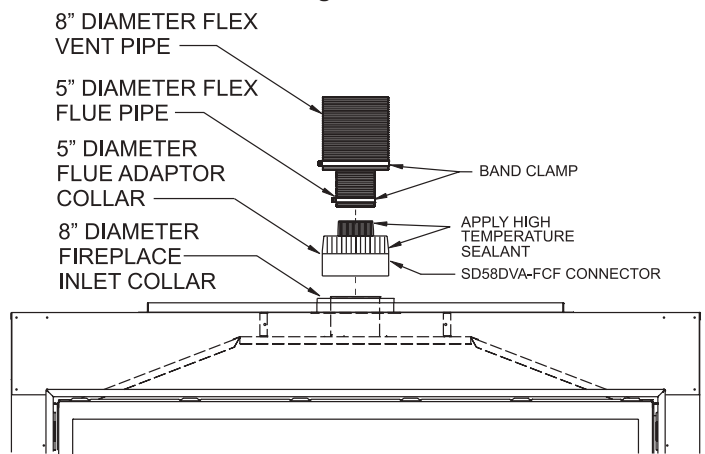

Figure 62b
**NOTE:** For installation of Flex Venting on Fireplaces that have Flue and Inlet Vent collars flush with top of the fireplace, it is recommended that an SD58DVA-FCF Connector be used. When using the SD58DVA-FCF Flex Vent Connector, it will require removing (or cutting off) the 5" diameter adapter from the DVVK5F Flex Flue. See Step 10b and Figure 62b.
**NOTE:** For installation of Flex Venting on Fireplaces that have Flue and Inlet Vent collars flush with top of the fireplace, it is recommended that an SD58DVA-FCF Connector be used. When using the SD58DVA-FCF Flex Vent Connector, it will require removing (or cutting off) the 5" diameter adapter from the DVVK5F Flex Flue. **See Step 10b and Figure 62b.**
- 10a.** Apply sealant to the outside of the flue pipe adapter and connect to the flex flue pipe. Then insert the adapter into the fireplace flue. Secure the flue adapter to the fireplace flue with a minimum of two screws provided. **See Figure 62b.**
- 10b.** If using the SD58DVA-FCF Vent Connector, apply sealant to the inside of the 5" diameter flex flue pipe, then connect the flex flue to the 5" flue takeoff on the SD58DVA-FCF Connector. Use a 5" diameter band clamp and a minimum of two screws to secure the flex flue to the SD58DVA-FCF Connector. **See Figure 62b.**